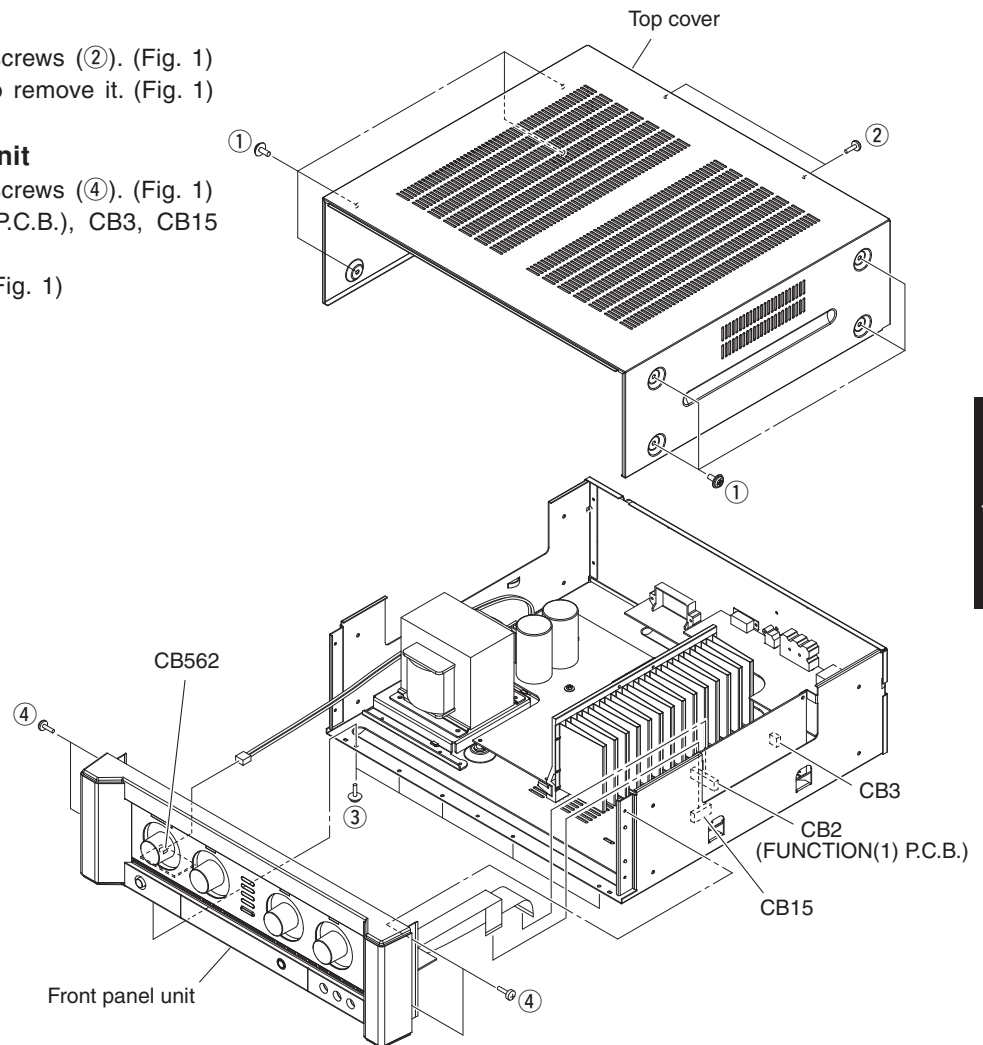

Fig. 1
- Remove 8 screws (①) and 2 screws (②). (Fig. 1)
- Slide the top cover rearward to remove it. (Fig. 1)
- Remove 5 screws (③) and 4 screws (④). (Fig. 1)
- Remove CB2 (FUNCTION(1) P.C.B.), CB3, CB15 and CB562. (Fig. 1)
- Remove the front panel unit. (Fig. 1)